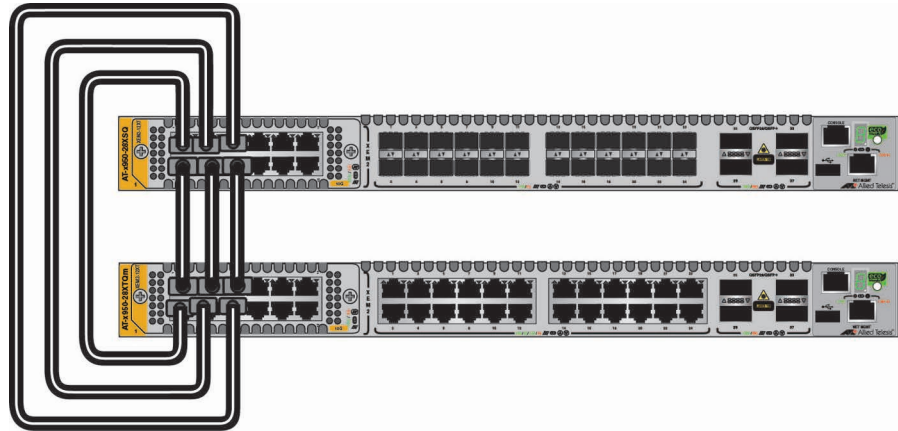

Figure 38. Example Trunk Using XEM2-12XT Line Cards
- ❑ Figure 38 on page 90 is an example of a stack of two switches with a trunk of six 10Gbps links on XEM2-12XT Line Cards.